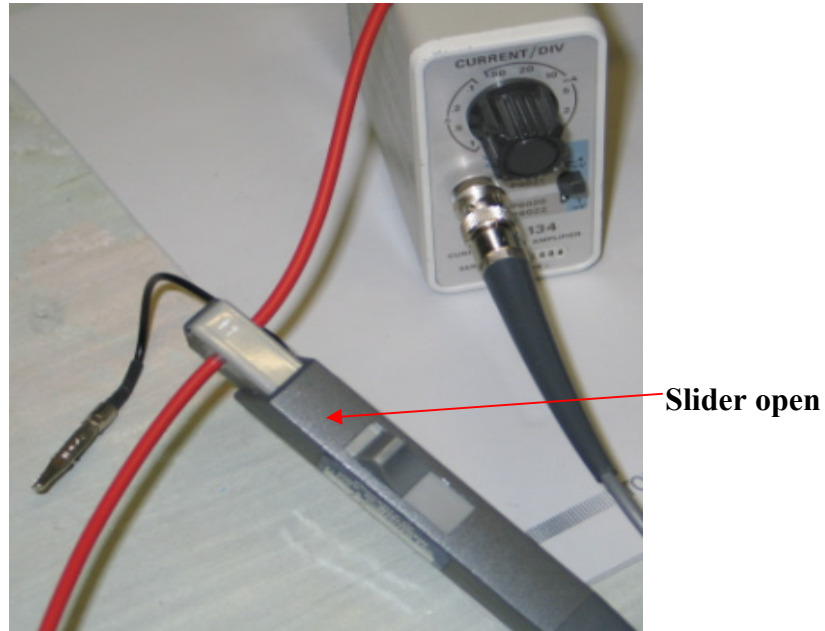

Figure 5: Probe slider around the conductor under test
4) The thumb-controlled probe slider opens the transformer core located in the end of the probe and closes it around the conductor under test (see Figure 5).